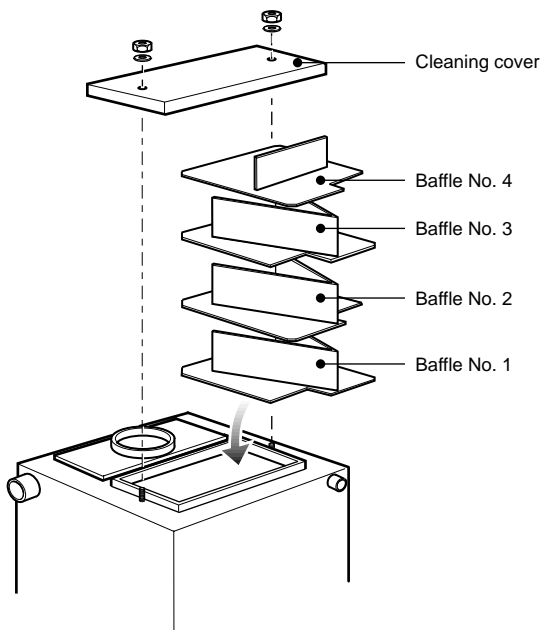

Fig. 18 - 50/70 baffle positions
See Figs. 18, 19, 20, 21 or 22
- 3 Remove the baffles, noting their position (see Figs. 18, 19, 20, 21 or 22).
- Replace the baffles, ensuring they are correctly fitted. See Figs. 18, 19, 20,21 or 22.